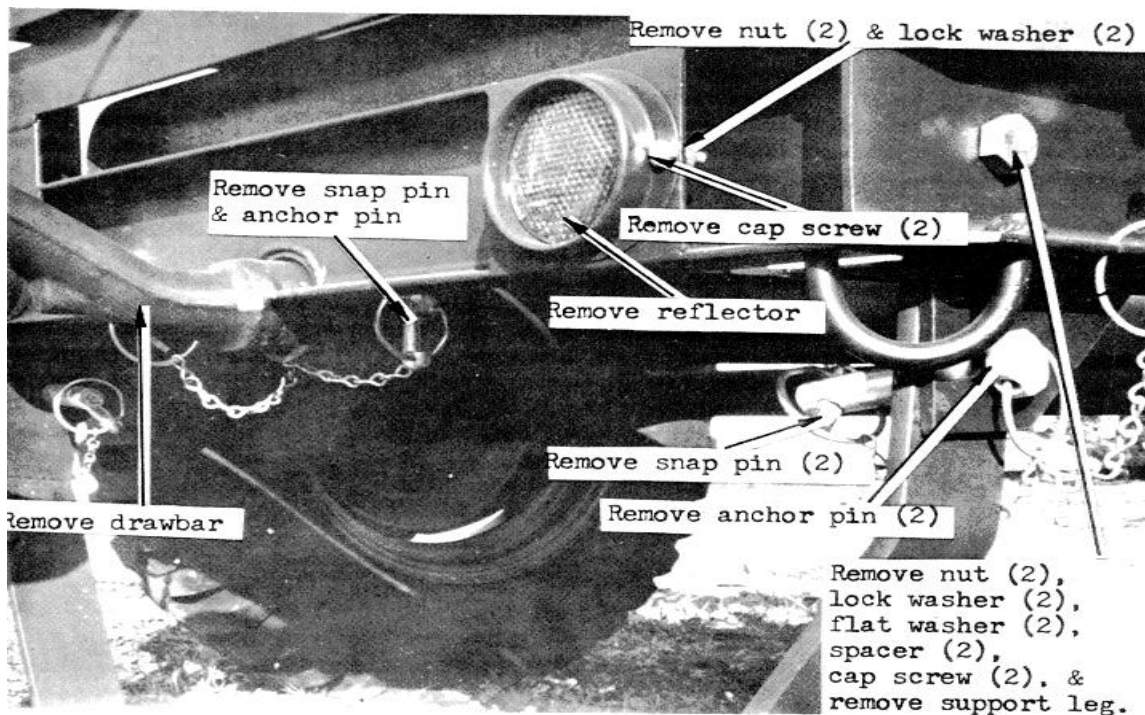

FIGURE 3-11. SUPPORT LEG, DRAWBAR, AND REFLECTORS
- Removal - Refer to Fig. 3-11 and remove the support leg, drawbar, and the four reflectors.
- Installation - Refer to Fig. 3-11 and reinstall the support leg, drawbar, and the four reflectors.